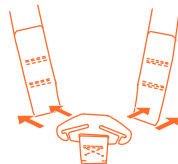

Fig. 36-2
2. From the backside of the car seat unfasten harness end loops from metal plate (Fig. 36-2).